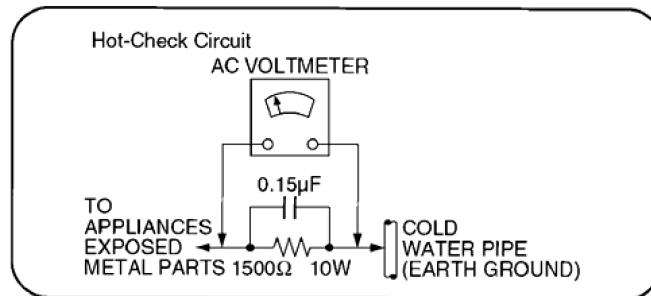

Figure 1
1.1.2. Leakage Current Hot Check (See Figure 1)
2. Connect a $1.5k\Omega$, 10 watts resistor, in parallel with a $0.15\mu F$ capacitor, between each exposed metallic part on the set and a good earth ground such as a water pipe, as shown in Figure 1.